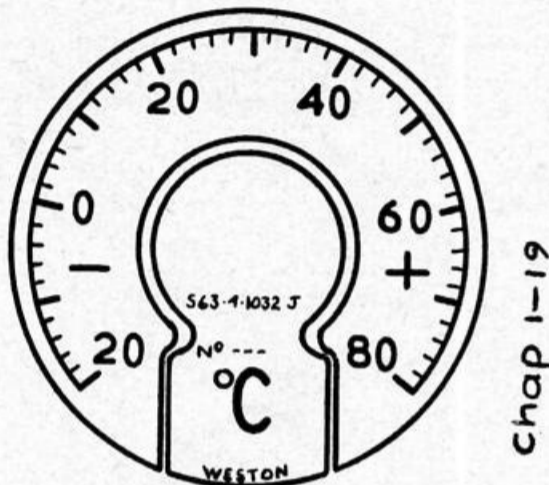

Fig. 1. Indicator, Type S63.4.1032
1. This indicator, (Ref. No. 6A/6569) (fig. 1), is calibrated in degrees C from -20 to +80; the indicator is controlled by variation of temperature in a resistance bulb which obeys a platinum law.